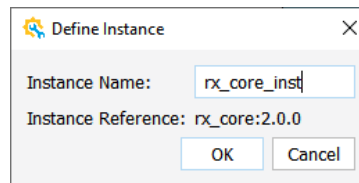

Figure 3.4. Specifying Instance Name
5. Confirm or modify the module instance name, as shown in Figure 3.4. Click **OK**.